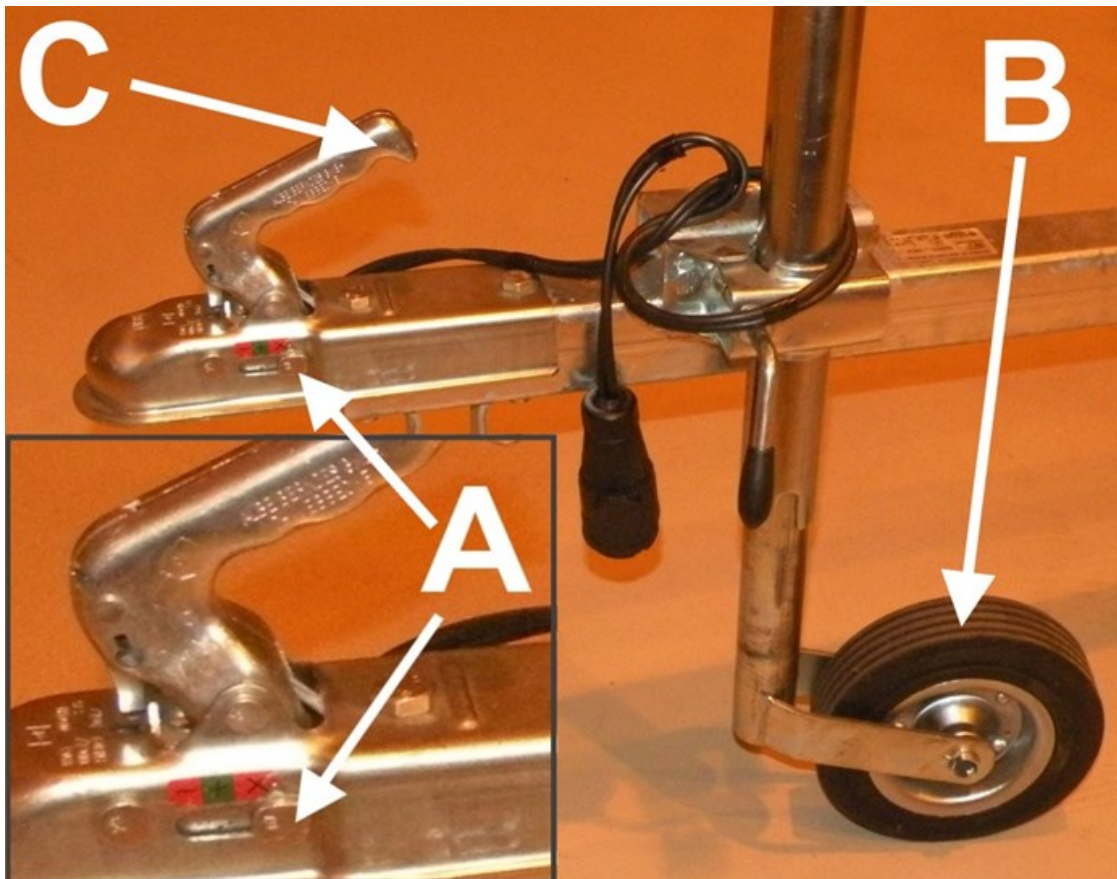

Figure 11.
2. Lower the front wheel B (Figure 11), and tighten the wheel to the lowered position (Section 2.3).
3. Lift the ball coupling handle C (Figure 11), so that it disconnects from the vehicle's towing hook when indicator A (Figure 11) is on the right side, as shown in Figure 11.
4. Turn the throttle lever A to the midway point (Figure 11).